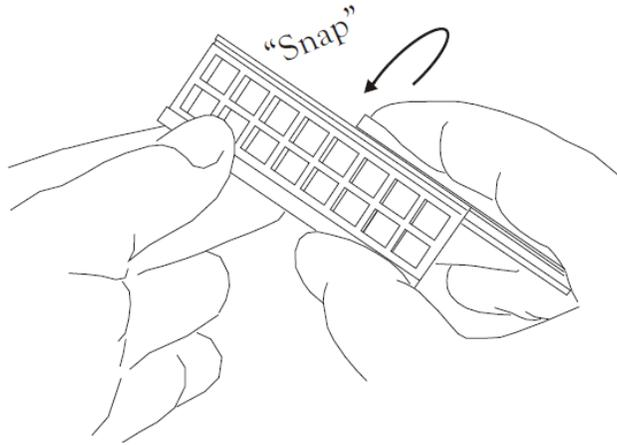

Figure 4
4. Place the clip onto slide/upper structure assembly by snapping onto the long edge of the module as shown in Figure 4. Grasp the assembly and place the flat inner edge of the clip over the glass slide. Press the clip into the groove in the upper structure surface while supporting the end with your finger tip.